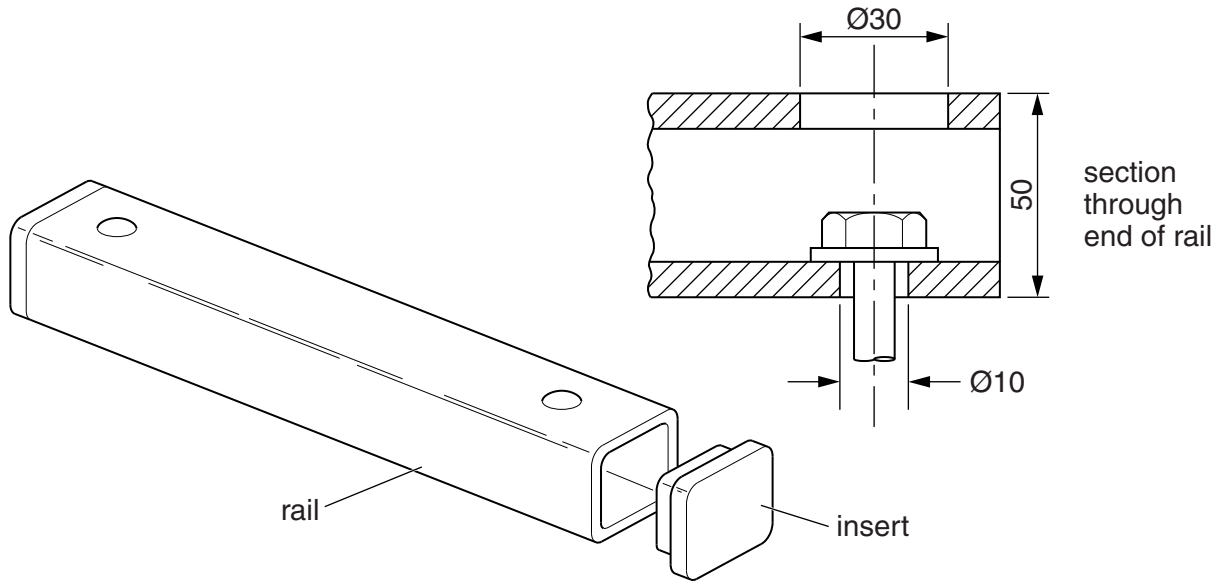

Fig. 3
(e) Fig. 3 shows details of one of the seat rails from the bench.
- (i) State a **suitable specific plastic** for the seat rail shown in Fig. 3. Give **two** properties or characteristics that make the material suitable for this use.
- (ii) Describe, in detail, how the seat rail shown in Fig. 3 would be manufactured as a batch of 5000.